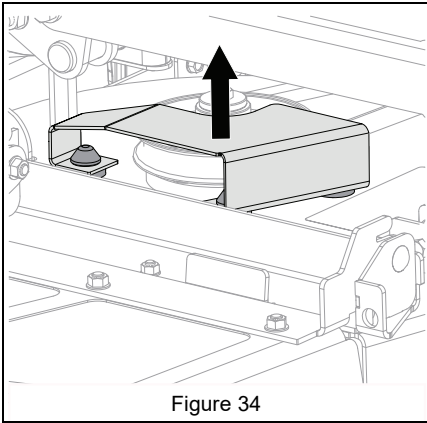

Figure 34
- Lift belt covers to remove from mower deck. See Figure 34.